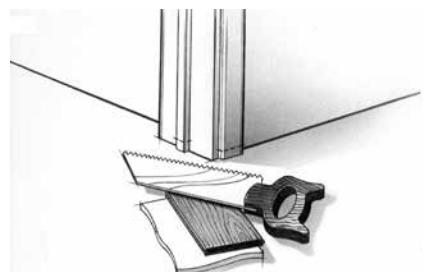

Fig. 1
2. Door trims and doorjambs must be undercut to allow the floor to move freely. Use a discarded piece of floor to support the saw blade at the correct height for undercutting (Fig.1).